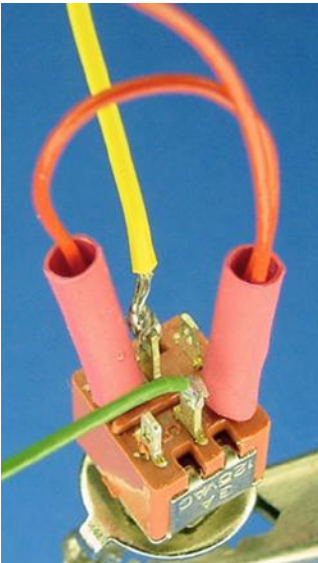

Figure 22-23. Diagonal side terminals covered in heat-shrink tubing and connected to left motor
3. Loop one end of the 6 cm red wire and one end of the 15 cm red wire together to the same terminal. You can pick any of the remaining terminals. I arbitrarily chose the lower right terminal in Figure 22-23. Twist together and solder.
Figure 22-23 shows the state of the switch as of completing step 11. The yellow and green wires are soldered to the center terminals. Two red wires are soldered to the lower right terminal of the switch and are covered by a piece of heat-shrink tubing. The other end of the shorter red wire is soldered to the terminal diagonally opposite it, and covered in heat-shrink tubing.
1. Loop one end of the 6 cm white wire and one end of the 15 cm white wire together to the same terminal. You can pick any of the remaining terminals. I arbitrarily chose the upper right terminal as it appears in Figure 22-23. Twist together and solder.